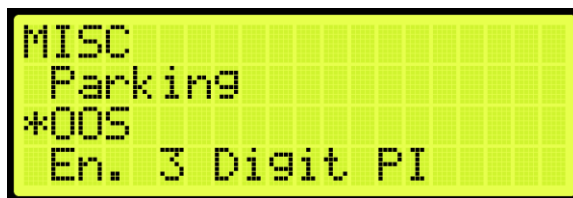

Figure 437: MISCELLANEOUS Menu – OOS
- From the MISCELLANEOUS menu, scroll and select OOS (See Figure 437).
2. From the MISCELLANEOUS menu, scroll and select OOS (See Figure 437).